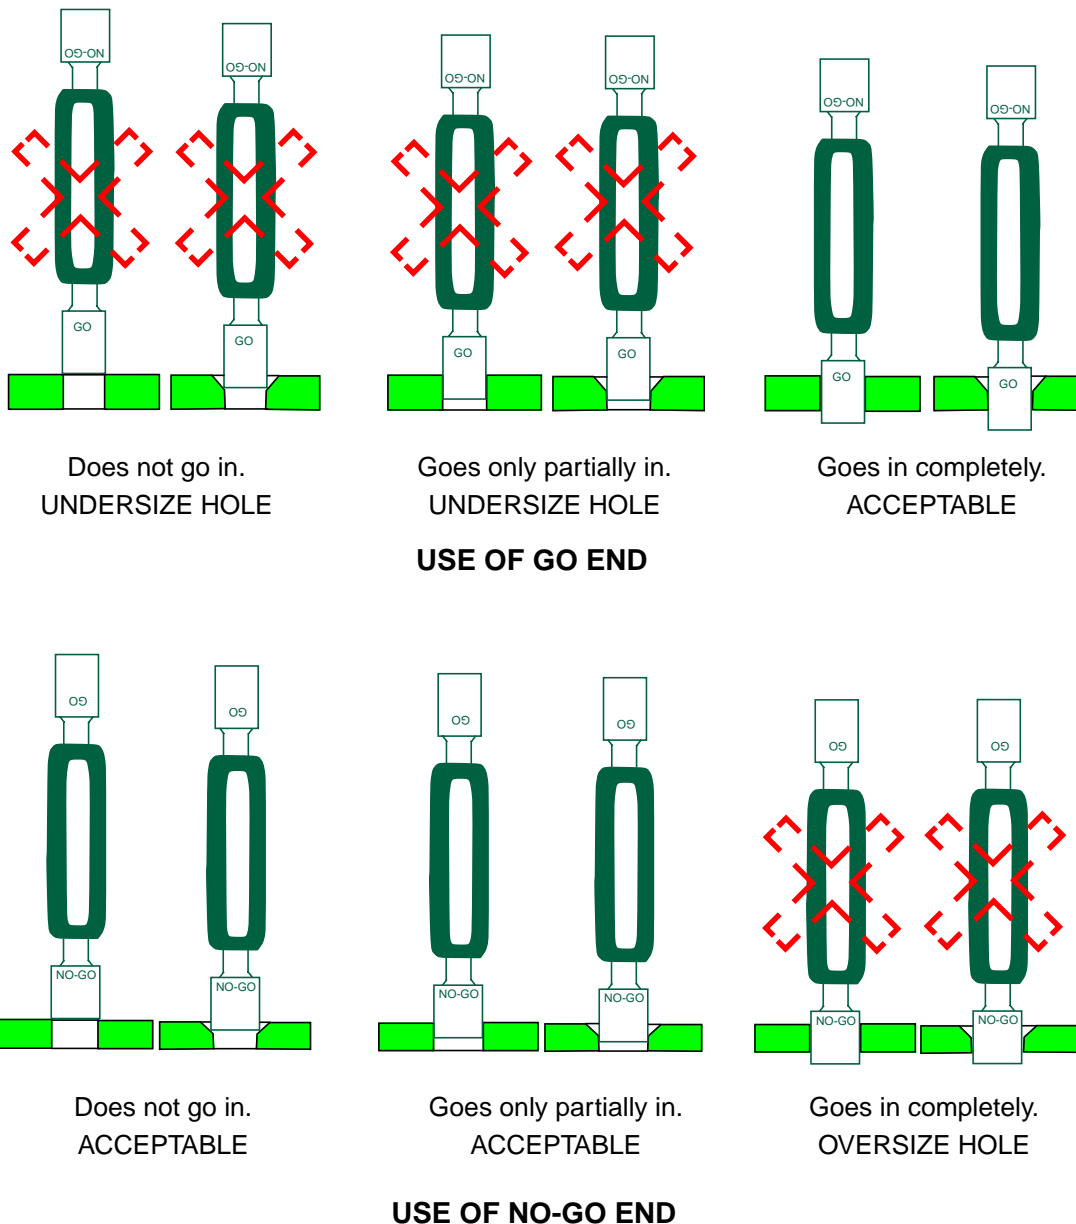

Figure 4 - Use of Go/No-Go Gauges
- 5.3.1 Check selected fastener holes for conformance to the requirements of Table 3 using the applicable go/no-go gauge as follows (see Figure 4):